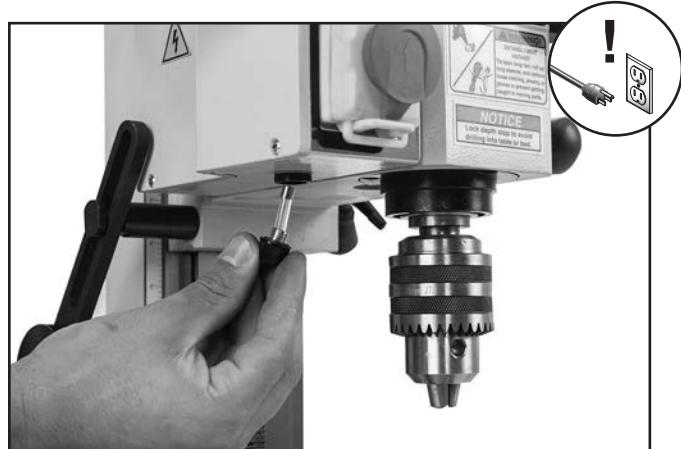

Figure 41. Removing and replacing fuse.
2. Locate black fuse holder (see **Figure 41**) on underside of headstock.
3. Unthread fuse holder by rotating it counter-clockwise, then remove fuse (see **Figure 41**).